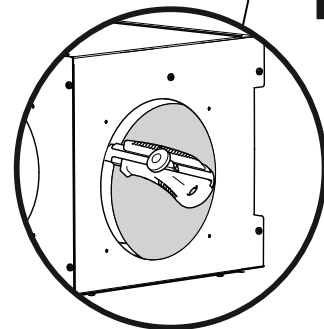

fig.11
- Use a cutting tool to cut the internal insulation from the outside along the circumference of the push-out element (fig.11).